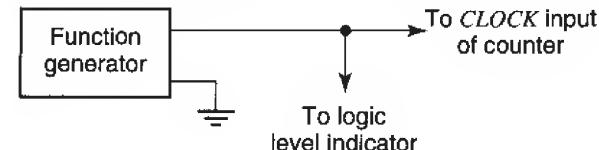

Fig. 7
11. Lower the frequency of the signal to 1 Hz. *Disconnect the clock switch from the input of the ripple counter of Fig. 5*, and connect instead your function generator output, as shown in Fig. 7. The LED indicator at the output of the function generator should be lighting up one time per second.